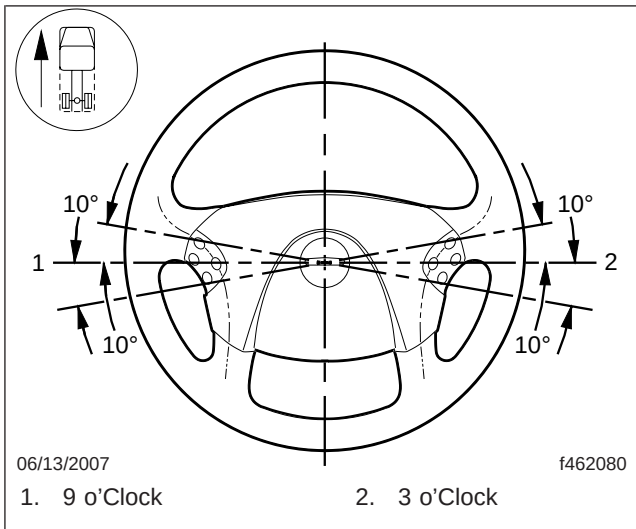

Fig. 2, Steering Wheel Centered
8. With the front tires pointing straight ahead, and no load on the vehicle, the steering wheel spokes should be within ± 10 degrees of center as shown in **Fig. 2**. If not, remove the steering wheel and install it in the correct position.